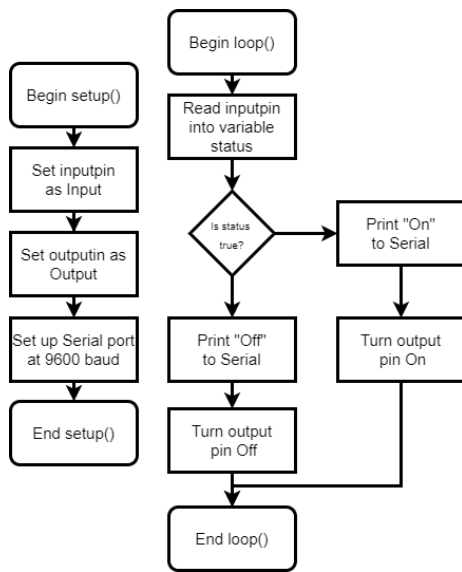

Figure 16: Flow chart for the combined input and output program.
3. Once your breadboard circuit is complete, your program should read the position of the switch and turn the LED on or off depending on that position, as shown in Figure 16.